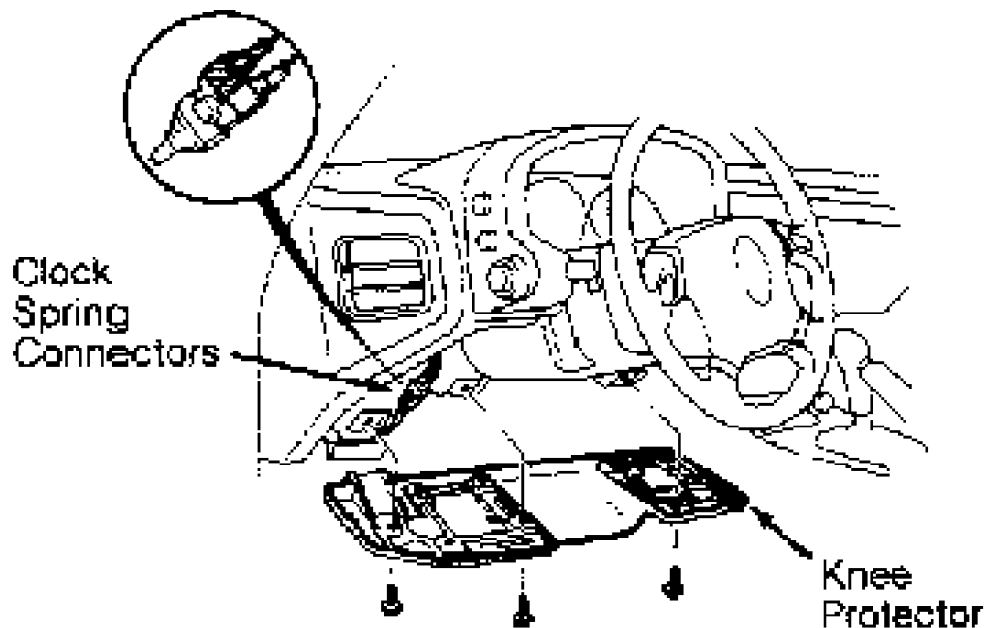

Fig. 1: Locating Clockspring Connector
On Miata, obtain radio code number from customer, and deactivate audio anti-theft function. On all models, turn ignition switch off. Disconnect and shield negative battery cable. Remove knee protector. Disconnect Orange and Blue clockspring connectors at base of steering column. See Fig. 1.
2) Ensure air bag module is firmly mounted to steering wheel. Remove knee protector and disconnect Orange and Blue clockspring connectors at base of steering column. See Fig. 1. Cut clockspring connector Blue wires.